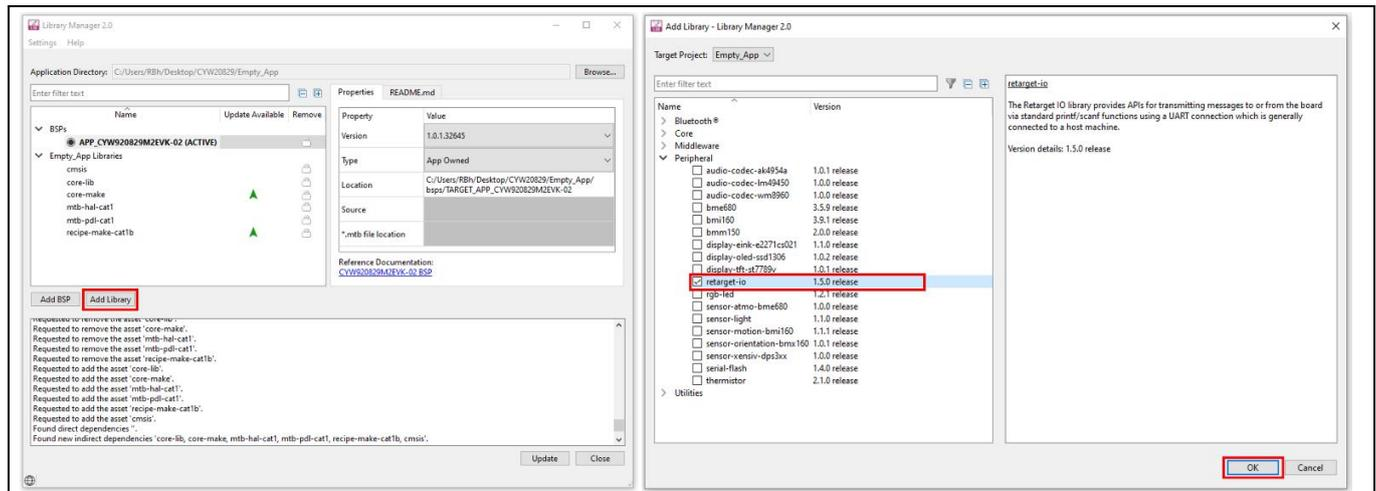

Figure 16 Add the retarget-io middleware
- In this step, you will add the retarget-io middleware to redirect standard input and output streams to the UART configured by the BSP. The initialization of the middleware will be done in *main.c*. After clicking on **Add Library**, select **Peripheral > retarget-io** (see Figure 16 for this option).